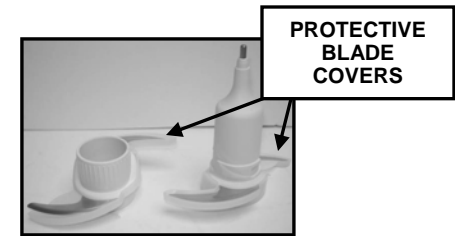

Fig. 2
- Once the food processor bowl is securely in place, remove the protective blade covers and carefully assemble the upper and lower chopping blades. (Fig. 2 & 3)